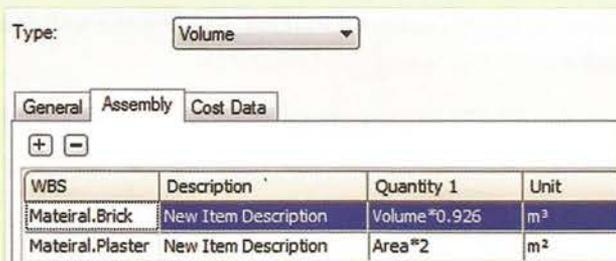

Fig 6: Assembly
- In the same way enter the formula 'Volume\*0.926' for the 'Material Brick' and set the unit as 'm3' (In the 3D model; Wall thickness = Brick work + Plastering) (Figure 6).